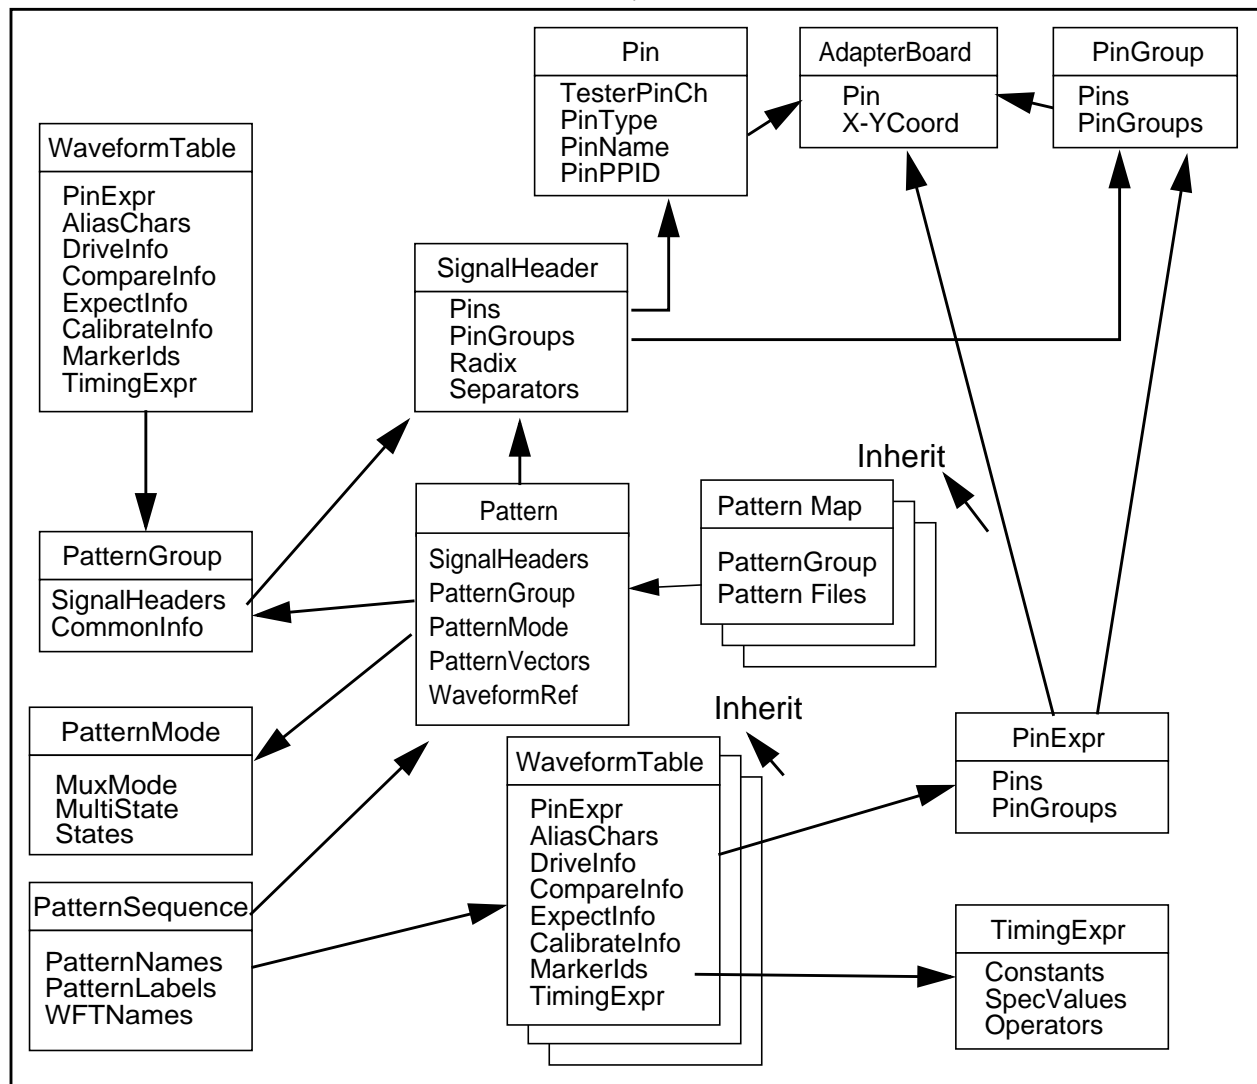

Figure 2.2: Pattern Data Objects
These subsystems are an integrated set of data objects that define the setup and execution of the high-speed functional pattern hardware in the tester. Figure 2.2 shows these data objects and their relationships. These data objects are collectively referred to as *patterns*. One of these objects, Pattern, tells enVision how the DUT operates. These objects are connected by the PatternSequence Object.
- WaveformTable object—defines the waveshape and timing for each of the alias characters in a pattern. Figure 2.2 shows this object either connected to a pattern group or a pattern sequence:
The second major function of the `PatternSequence` object is the Zipper Table, which resolves the list of waveform references from each vector of all patterns in the pattern sequence to a `WaveformTable` object. Figure 2.2 shows this object may be directly associated with the `Pattern` object or connected via the `PatternSequence` object. The connection via the `PatternSequence` data object is the most flexible because you can reuse the pattern set in another sequence with a different set of format and timing relationships.